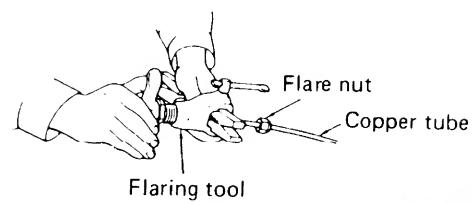

Fig. 22
- d) Make a flare at the end of copper tube with a flaring tool\* Fig. 22 (\*Use "RIGID" or equivalent.)